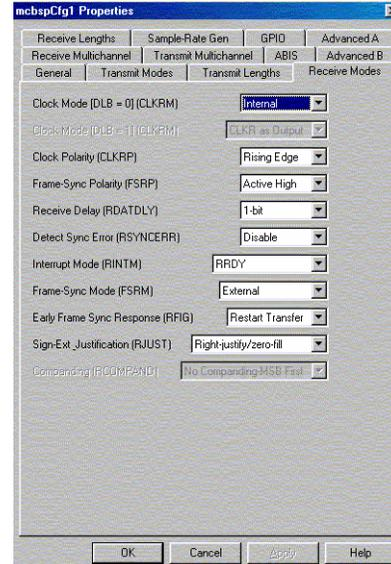

Figure 11. McBSP Receive Modes Tab
- In the *Receive Modes* tab, select options as shown in Figure 11. McBSP generates CLKR internally. It is in sync with CLKX, so CLKR does not need to be connected. Set CLKR and FSR polarity to rising edge and active high respectively. FSR is generated by an external device; in this case it is the BUSY pulse of the ADS8345. The receive delay is set to one because the A/D shifts data out on the next clock after BUSY returns low.